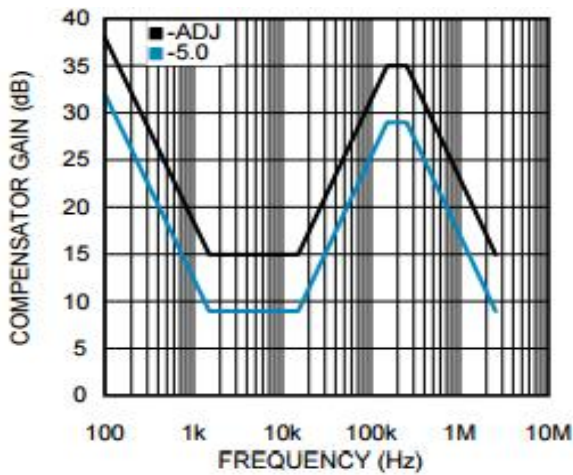

Figure 15. Compensator Gain
The complete transfer function for the regulator loop is found by combining the compensation and power stage transfer functions. The LM22672 has internal type III loop compensation, as detailed in Figure 15. This is the approximate "straight line" function from the FB pin to the input of the PWM modulator. The power stage transfer function consists of a dc gain and a second order pole created by the inductor and output capacitor(s). Due to the input voltage feedforward employed in the LM22672, the power stage dc gain is fixed at 20 dB. The second order pole is characterized by its resonant frequency and its quality factor (Q). For a first pass design, the product of inductance and output capacitance should conform to Equation 4.